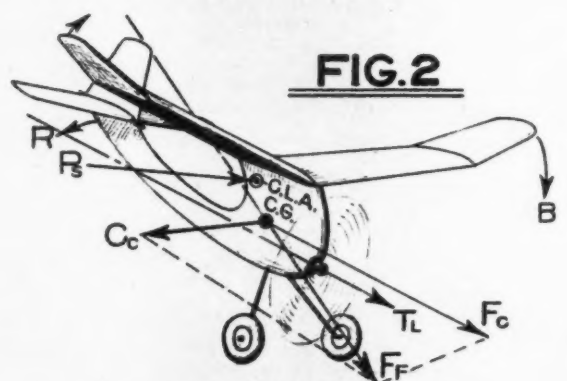

FIG. 2
An adherent of the CLA theory need only look once at Mr. Brown's design to know definitely why it has spiral tendencies. In fact, it would be impossible for the ship to act in any other manner. First of all, it is not because of the cambered stabilizer used but because the CLA is far above the center of gravity (CG) as indicated in Fig. 1. In order to possibly clear up the result of a lot of misinformation concerning CLA effect, let us first consider that this plane is flying in a straight level path. Due to the torque effect of the propeller or to some other external force, the plane banks slightly to the left, arrow B, Fig. 2, and the tail swings slightly to the right, R. The plane does not immediately turn to the left with the bank because its mass or weight tends to keep on moving straight forward, arrow Ff. Consequently it crabs slightly sideways to the right through the air, as shown in Fig. 2. However, as the plane is nosed to the left the propeller thrust Tl, lift forces and other forces tend finally to direct it to the left from the original straight path of flight, Ff, while centrifugal pull Cc, is developed outward by the weight of the airplane.